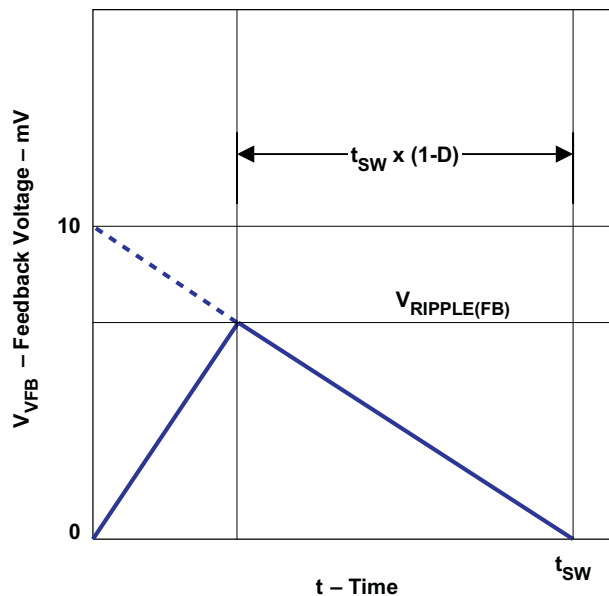

Figure 18. Ripple Voltage Down Slope
- the output ripple down slope rate is 10 mV/t_{SW} in terms of VFB terminal voltage as shown in Figure 18